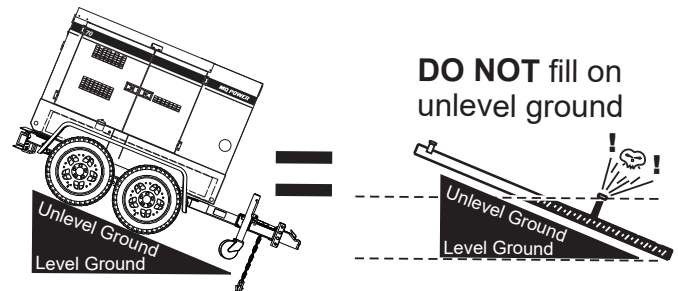

Figure 26. Only Fill On Level Ground
1. **Level Tanks** — Make sure fuel cells are level with the ground. Failure to do so will cause fuel to spill from the tank before reaching full capacity (Figure 26).